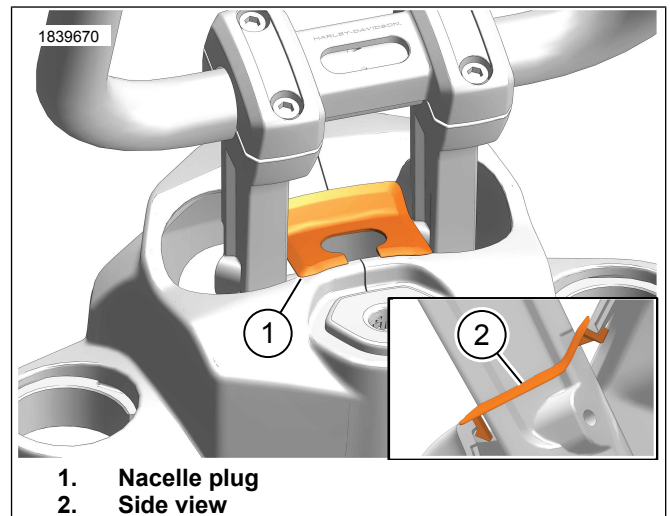

Figure 5. Nacelle Plug
7. Figure 5 Install nacelle plug.
- a. Install nacelle plug (1) at top of nacelle.
- c. Pivot nacelle plug (1) down and snap into place.